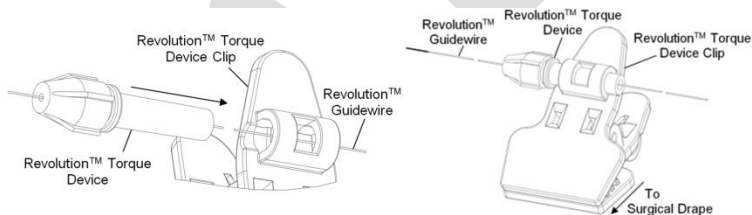

Figure 9: Tighten torque device to guidewire
8. Clip the Torque Device Clip to the surgical drape and slide the torque device into the slot on the Torque Device Clip as shown in Figure 9. **WARNING: Ensure that the torque device is appropriately tightened and that it will not spin in the Torque Device Clip.** Replace the torque device if it is not firmly secured in the Torque Device Clip. The torque device should be tightened as close to the handle as possible and is **NOT to exceed 10cm (4in)**. **Precaution: Monitor the smooth tracking of the drive shaft over the guidewire during operation. If resistance is encountered during the procedure, remove the Revolution™ Peripheral Atherectomy System and flush the system.**